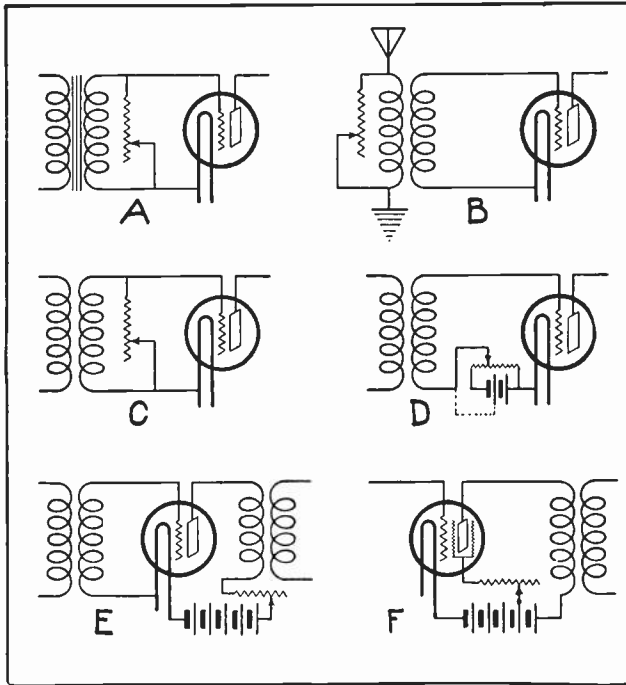

Fig. 117. The above sketches show six different methods of obtaining volume control in the R. F. or A. F. stages of radio receivers and amplifiers.
Some receivers obtain their volume control in the R.F. stages, by use of potentiometers of several hundred thousand ohms resistance, shunted either across the primary of the first R. F. transformer or across the secondary of one or more of the R. F. interstage transformers, as shown at B and C in Fig. 117.
Volume control can also be obtained by varying the amount of negative bias on any of the tubes, by means of an adjustable resistance across the C battery, or by variable voltage taps on the C battery or negative bias supply. See Fig. 117-D.
Some older type receivers use potentiometers in series with the plate circuits of one or more R. F. tubes, to reduce the plate voltages applied to these tubes, and thereby reduce their output. See Fig. 117-E.
A. C. receivers with screen grid tubes frequently use potentiometers in series with the leads from the B battery or D. C. supply to the screen grids of these tubes. Varying the positive potential of these screen grids varies the space charge and electron flow as previously explained, and thereby controls the plate current and power output of the tubes. This method of volume control is illustrated for one tube in the sketch in Fig. 117-F.